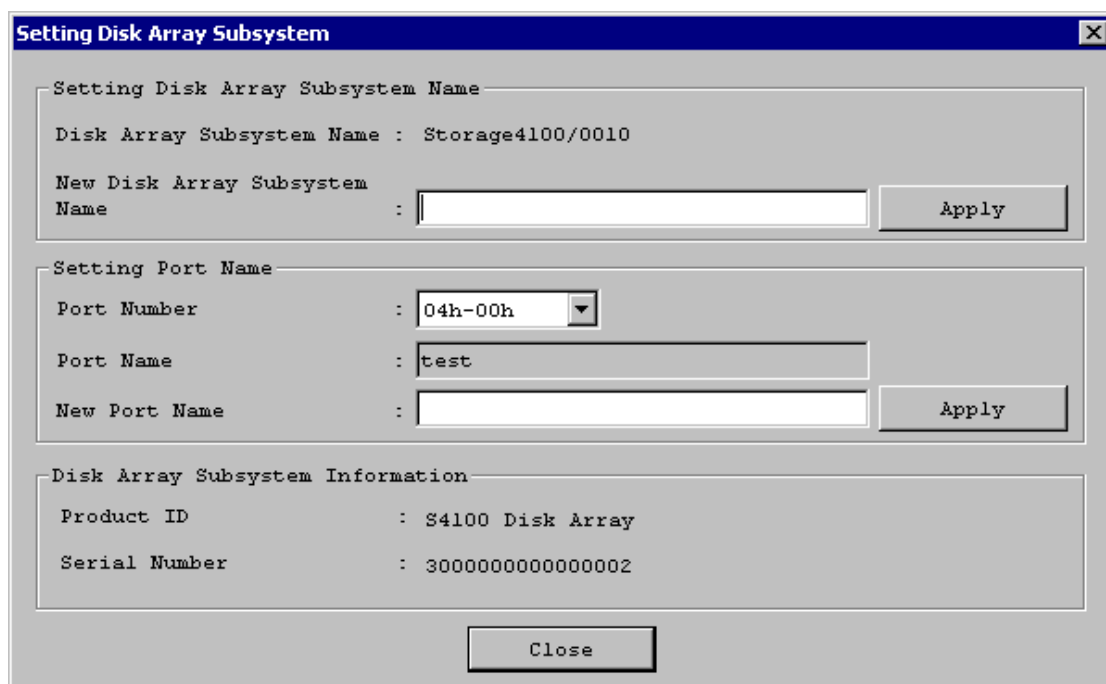

Figure 3-25 Disk Array Subsystem Name/Port Name Setting Dialog
- (i) Select (left-click on) the disk array (for which you want to set a name) in the configuration information display area (or the information list display area), right-click on it, and select [Settings] (or [Operation] on the menu bar → [Disk Array Subsystem Name Settings]). The Disk Array Subsystem Name /Port Name Setting dialog box (Figure 3-25) appears.
- (i) Select (left-click on) the disk array system having the port (for which you want to set a name) in the configuration information display area (or the information list display area), right-click on it, and select [Settings] (or [Operation] on the menu bar → [Disk Array Subsystem Name Settings]). The Disk Array Subsystem Name/Port Name Setting dialog box (Figure 3-25) appears.
- (ii) Select a port number (port name) from the [Port Number] list and input port name in the [New Port Name] edit box, following the rules defined in (6) “Port Name Setting Conditions and Naming Rules” and click [Apply] button.